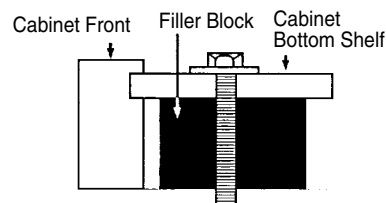

Figure 26
**NOTE:** If the bottom of the upper cabinet is recessed 3/4" or more, you will need 2"x 2" filler blocks (not included) to provide additional support for the bolts. See Figure 26.